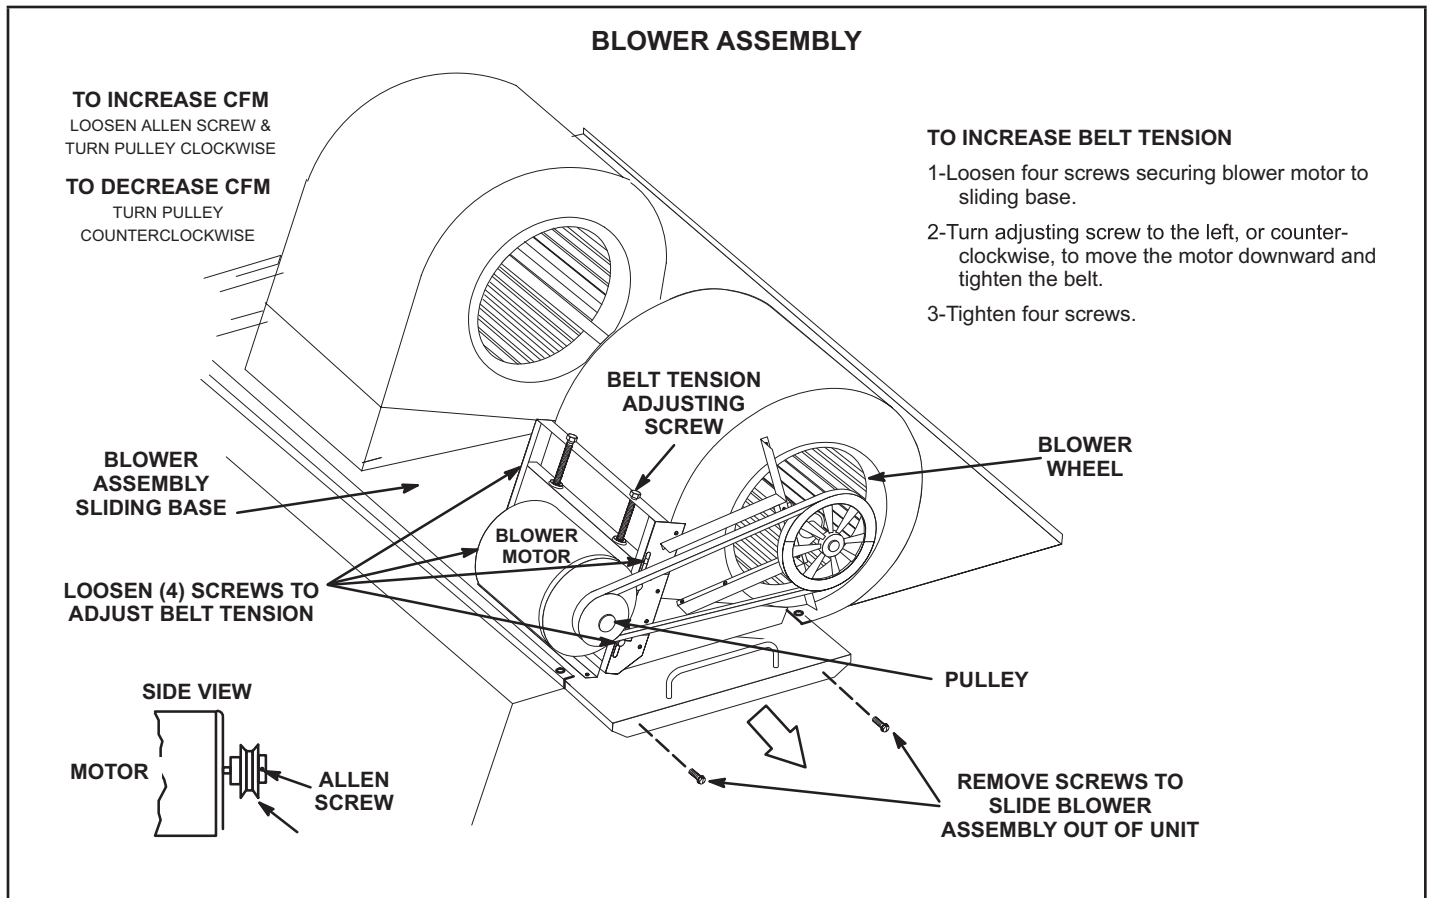

FIGURE 18
- 2 - Remove screws on either side of blower assembly sliding base. See FIGURE 18.
4 - The blower RPM can be adjusted at the motor pulley. Loosen Allen screw and turn adjustable pulley clockwise to increase CFM. Turn counterclockwise to decrease CFM. See FIGURE 18. Do not exceed minimum and maximum number of pulley turns as shown in TABLE 4.
- 1 - Loosen four screws securing blower motor to sliding base. See FIGURE 18.